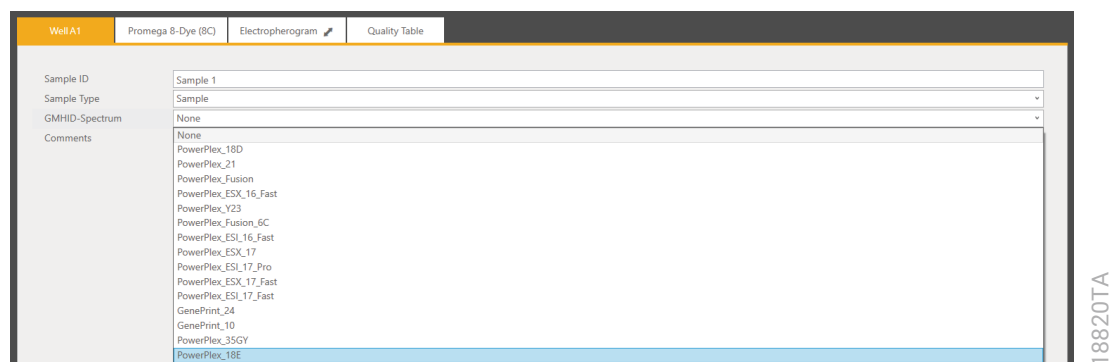

Figure 14. Drop-down options for GeneMarker®HID Software for Spectrum CE Systems run wizard templates.
6. **Optional:** Select **PowerPlex_18E** in the GMHID-Spectrum drop-down menu (Figure 14).